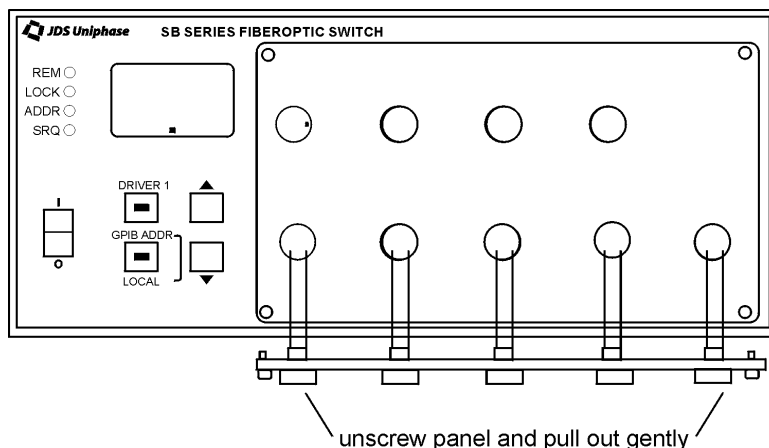

Figure 13: Removing the Connector Panel
2. Slowly pull the panel out to the full extent of its guide rails (Figure 13).